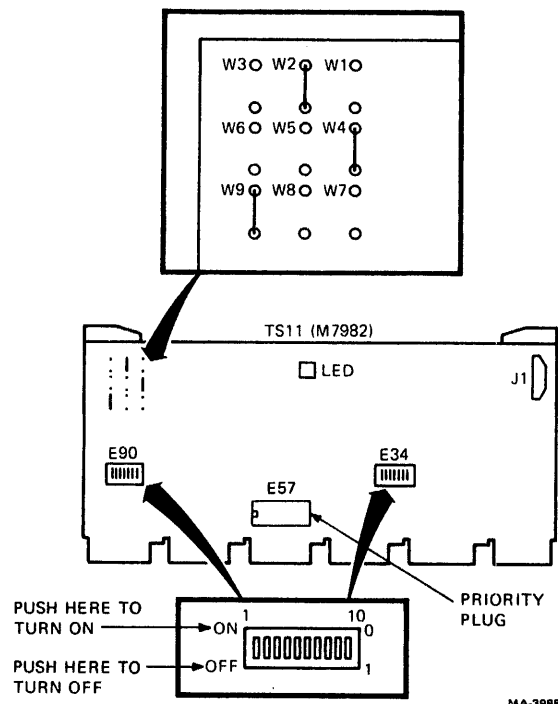

Figure 2-12 M7982 Interface Module
2. Make sure that the correct priority plug (BR5/BG5; PN 54-08778) is installed in E57 (Figure 2-12).
4. Use Figure 2-12 and Table 2-4 to correctly configure the address switch (E90) and interrupt vector switch (E34).
5. Make sure jumpers W1 through W9 are set correctly as shown in Figure 2-12. W2, W4, and W9 should be set in; all others should be set out.
7. Insert the 7-foot CPU adapter cable (PN 17-00450-01) into J1 of the interface module with the red reference edge toward the handle. Figure 2-12 shows the location of J1.